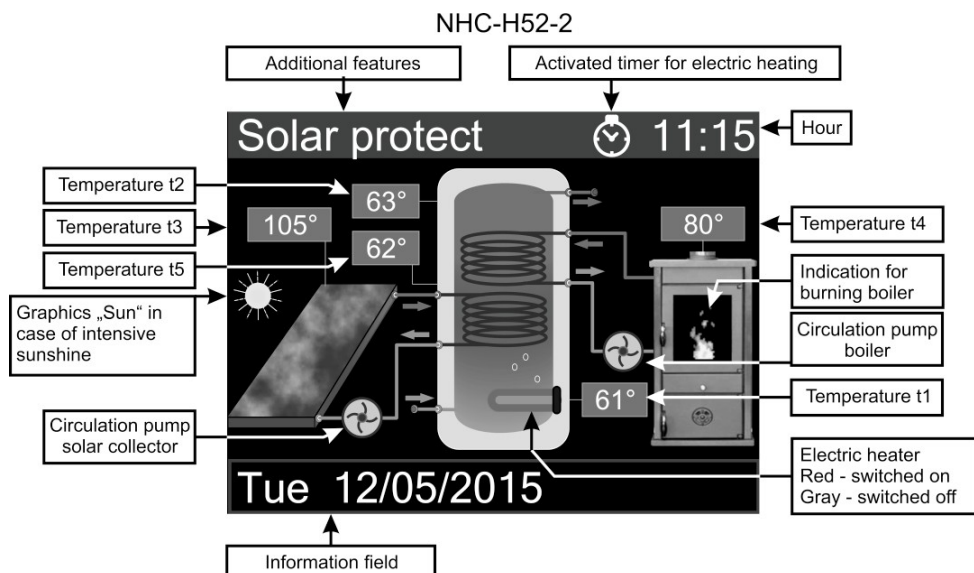

Fig. 3 - Display for electronic units NHC-H52M-1S / NHC-H52M-2
3.1 Main display - graphics and indications - Fig. 3